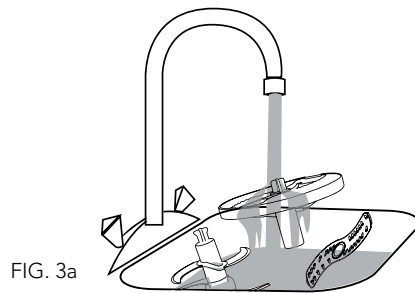

FIG. 3a
3. Blades and Disc Blade: Wash the blades and Disc Blade in soapy water, rinse and let it dry. Fig. 3a